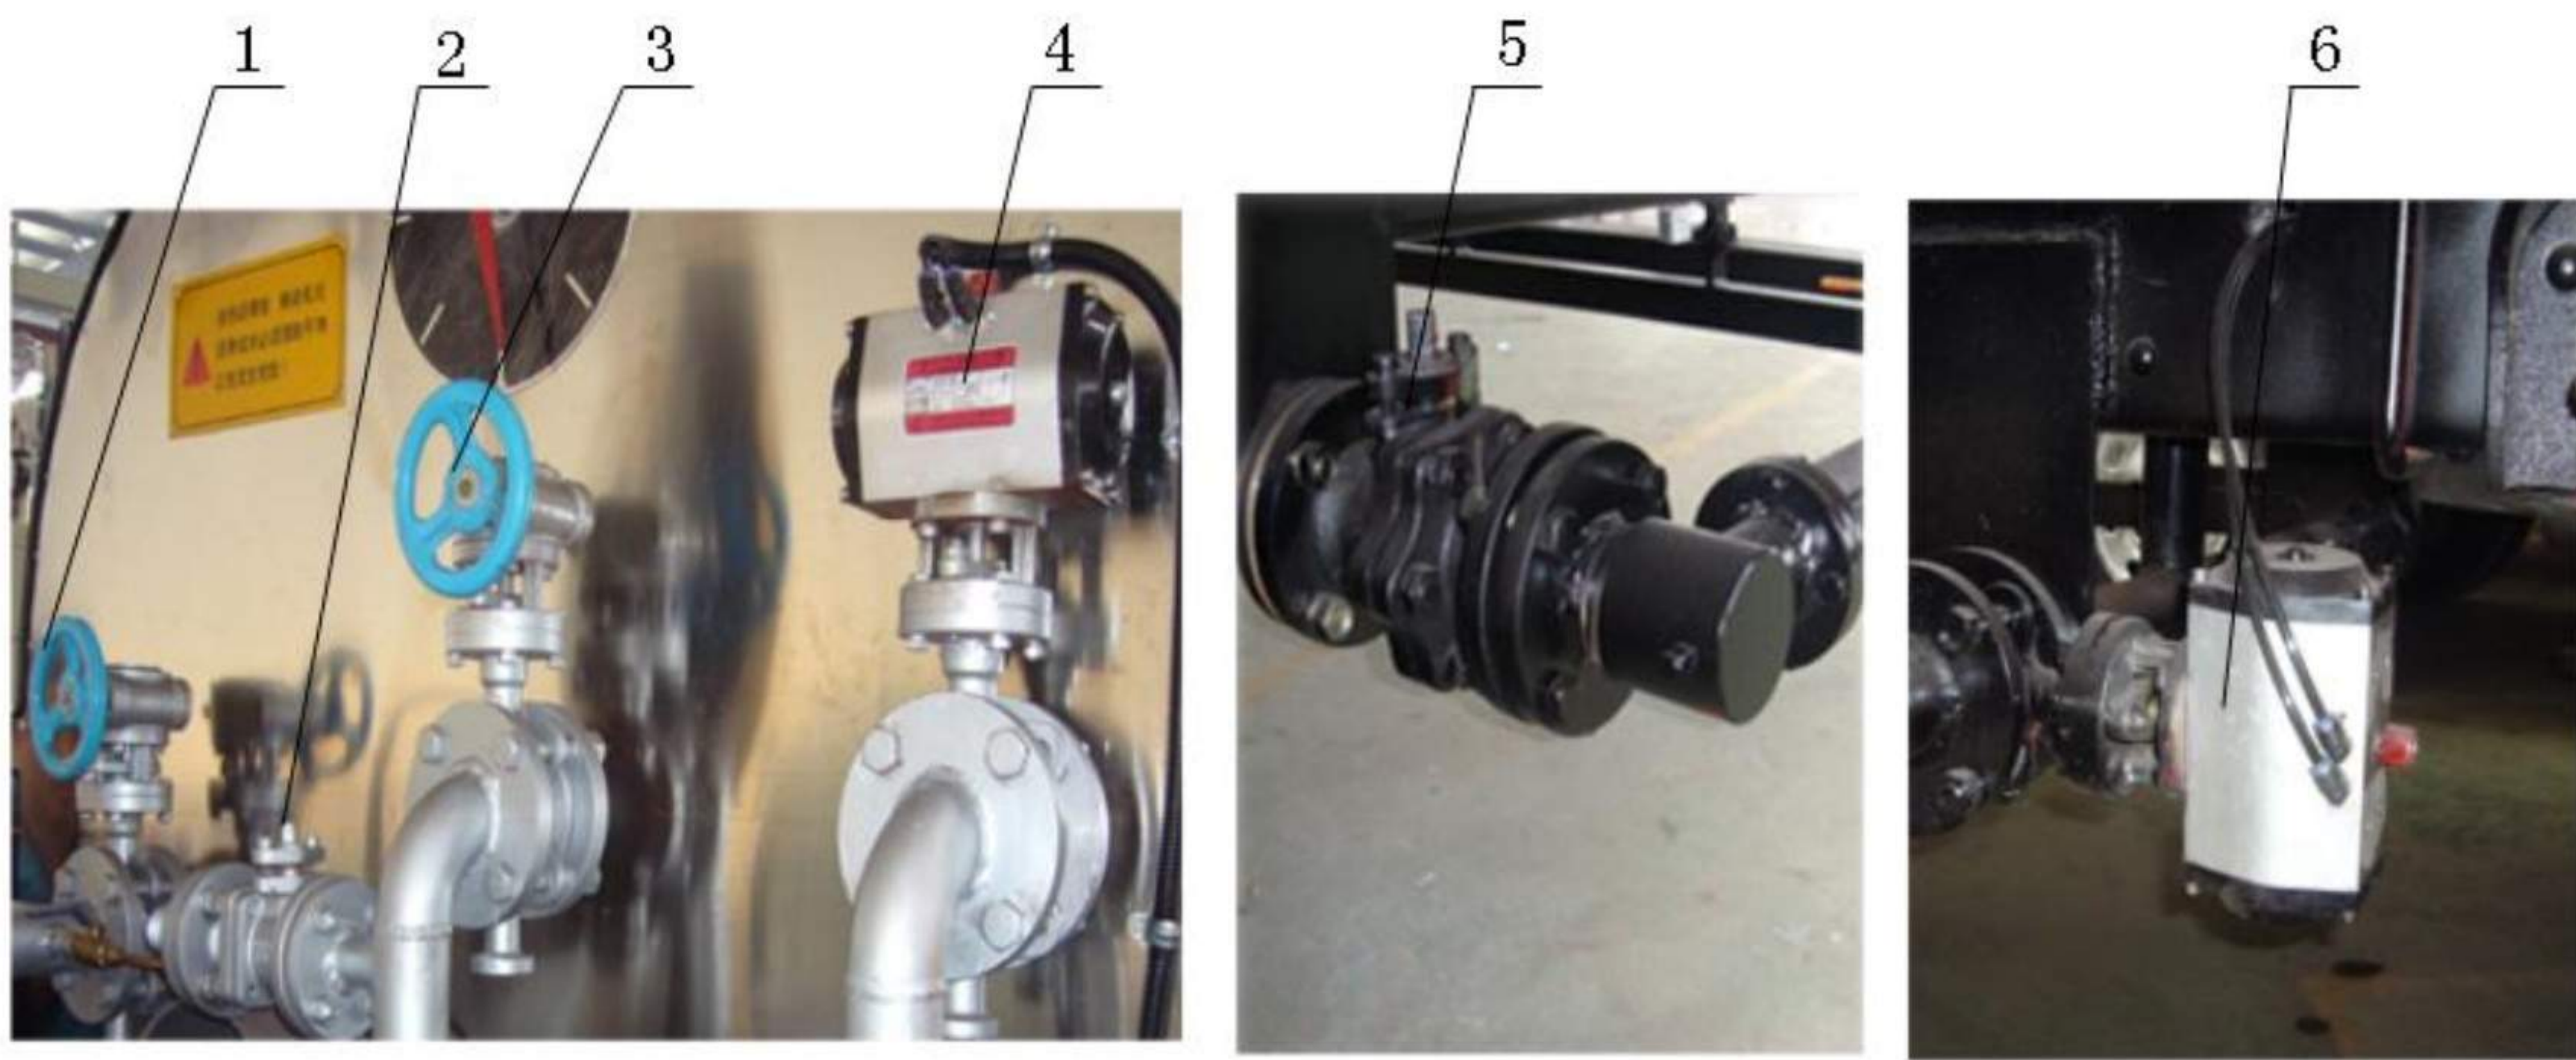
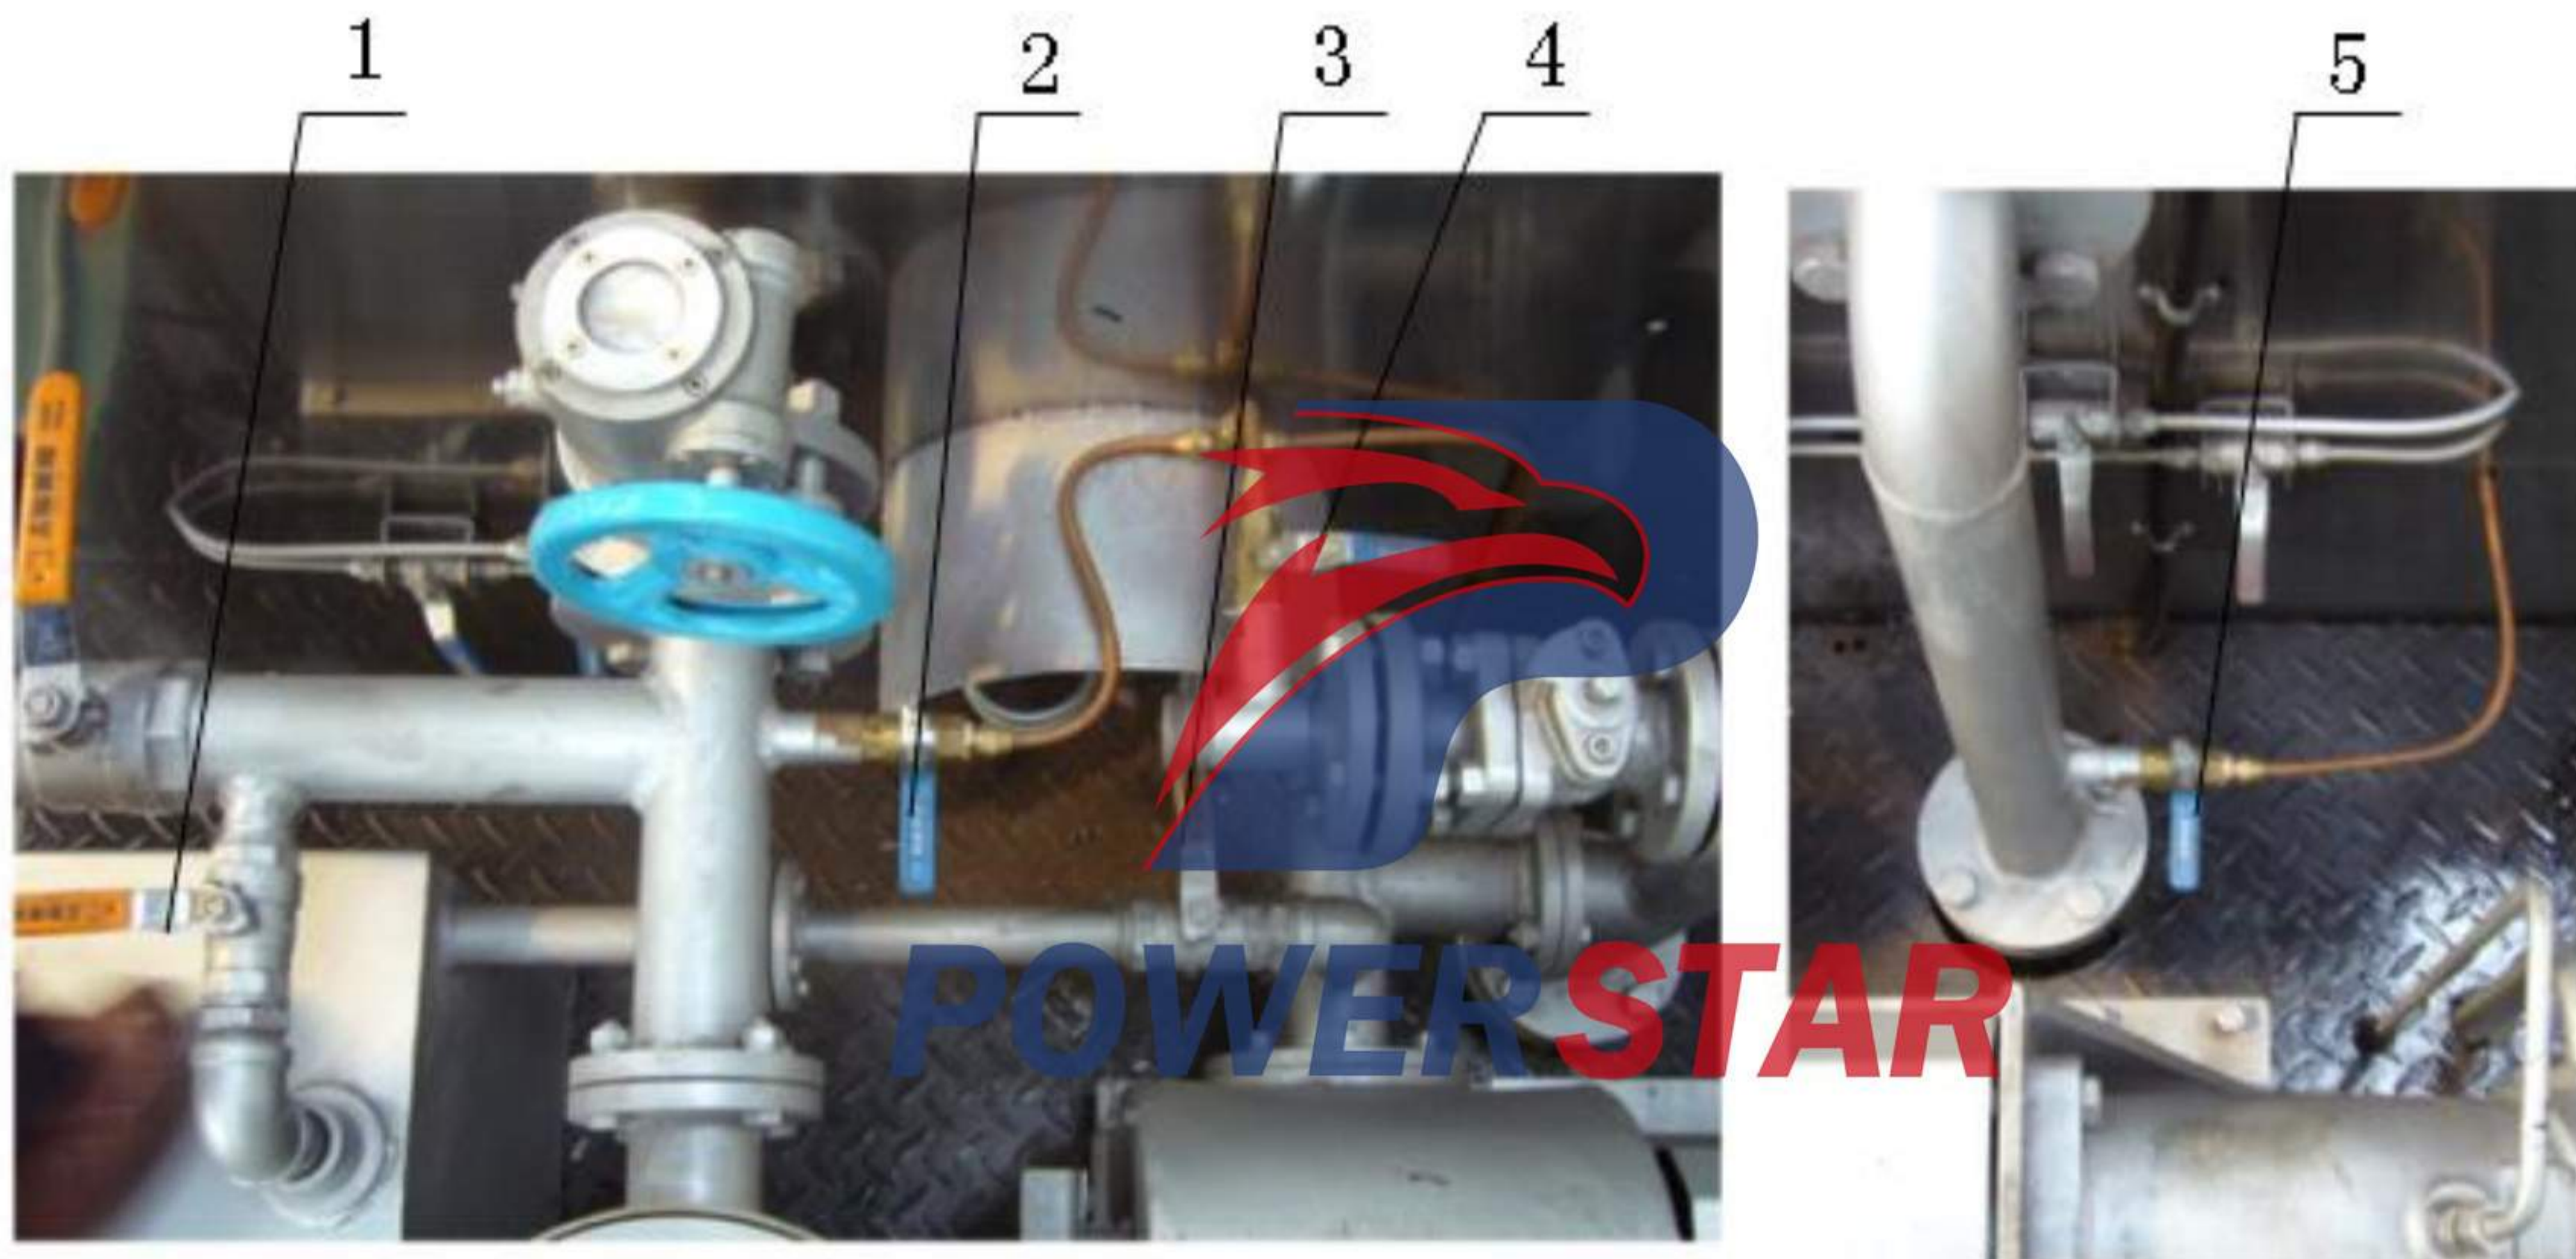

Fig. 11 Operation valve for spraying
Fig. 14 Valves for cleaning the asphalt pump and pipes
2. Open the oil inlet valve (as shown in Fig. 11) and the oil outlet valve (located at the lower left corner of the rear platform), and close the manual oil return valve.
2. Open the oil inlet valve and the manual oil return valve 45°. Open the handheld spray bar valve. Close the manual oil outlet valve (located at the lower left corner of the rear platform) as shown in Fig. 11.
- Close the oil inlet valve, manual oil outlet valve (located at the lower left corner of the rear platform) and manual oil return valve (as shown in Fig. 11), and open the diesel inlet and out copper ball valves (as shown in Fig. 14). Turn on the power switch on the rear console (as shown in Fig. 9) and the asphalt pump switch. The asphalt valve switch shall be turned
2. Close the diesel inlet and outlet copper ball valves, and open the two manual oil outlet valves (located at the lower left platform). Turn off all nozzle switches, turn on the asphalt valve switch, and turn on the spray switch. Open the **main pipe air valve** (as shown in Fig. 14), and run the asphalt pump at a low speed. Open the oil drain valve on the rear spray bar, and flush off the asphalt remained in the pipe.
2. Keep the asphalt pump running, close the diesel inlet and outlet copper ball valves, open the **main pipe air valve** (as shown in Fig. 14), and open the manual oil return valve, in order to flush the asphalt remained in the oil return pipe into the tank.
5. For spraying tasks via using the handheld spray bar with long interval between, the rubber hose and handheld spray bar shall be flushed. Close the handheld spray bar valve as shown in Fig. 14, and open the handheld spray bar air valve until air is blown out of the nozzle. At this time, the manual oil return valve shall be opened for about 45°.